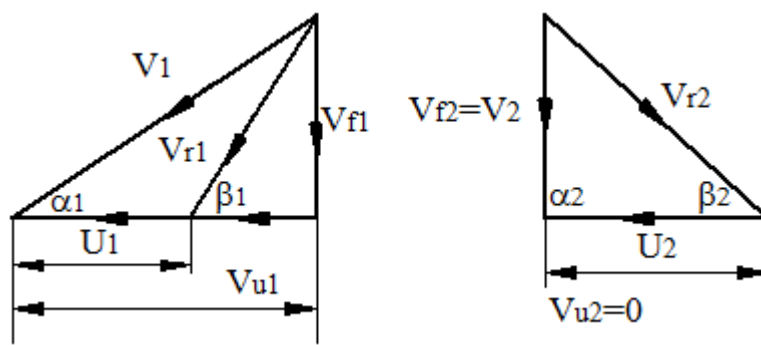

Fig. 3.4 Velocity diagram of generalized turbomachine for maximum utilization
**Answer:** For maximum utilization, the value of  $V_2$  should be the minimum and from the velocity triangle, it is apparent that  $V_2$  is having minimum value when it is axial or radial (i.e.,  $V_2=V_{f2}$ ). Then the velocity diagram of generalized turbomachine for maximum utilization is as shown in figure 3.4.